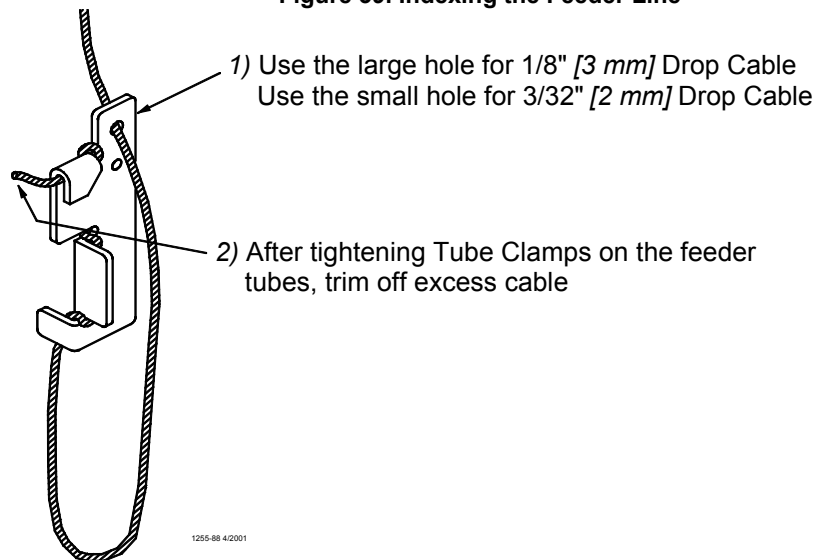

Figure 40. Cable Lock Threading
7. Install Adjustment Leveler within 6" [152 mm] of feeder line. **Figure 40** shows the proper cable routing around the Adjustment Leveler.
Finally, tighten the Tube Clamps on the feeder tubes. Clamp the joints securely, but do not crush the tubes. Re-adjust all Adjustment Levelers as needed and trim off excess cable as shown in **Figure 40**.